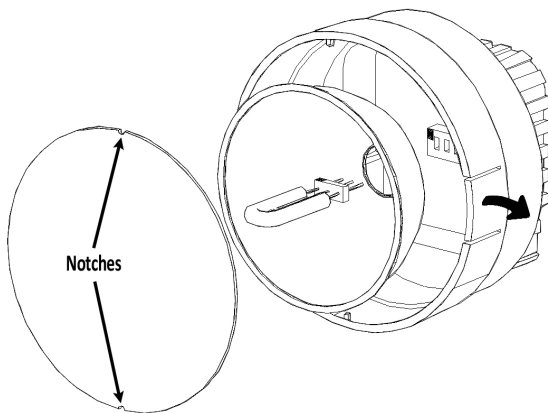

Figure 4 Lamp Replacement
3. Using a lint-free cloth, gently rock the lamp while pushing it into place (see Figure 4). Make sure the lamp is in straight and centered in the reflector hole.
4. Reinstall the reflector and then position the front lens in place matching up the notches on the lens with the two small tabs on the housing to prevent lens rotation (see Figure 4). Push the tabs on the front rim outward and press the lens into place.